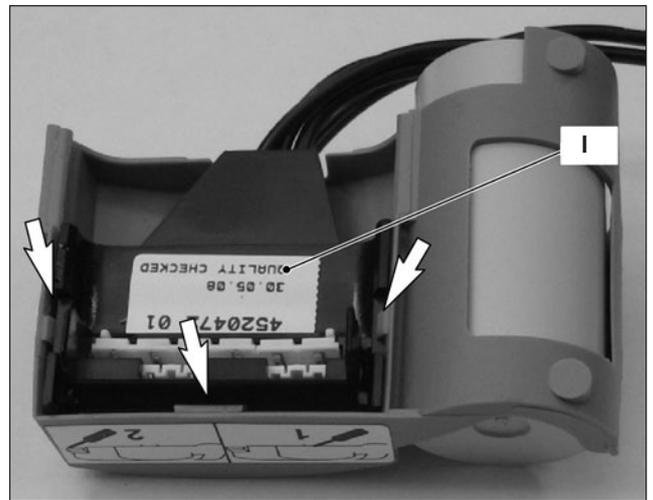

Figure 7.6
- 3 Remove the connector I of the cover box by levering with a screwdriver in as shown in (Figure 7.6).